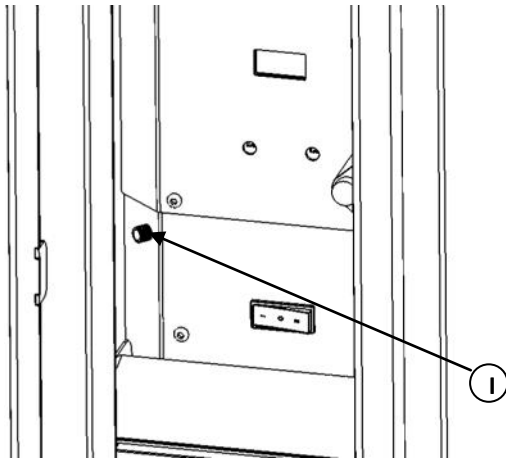

Figure 5—Localization of the input Plug.
If you use the Crea7ionEVO PLUS system connected to the electric current, do not forget to connect the AC adapter we provide you, along with your Crea7ionEVO PLUS, in the proper input plug (I), situated on the left side of the system (Figure 5).